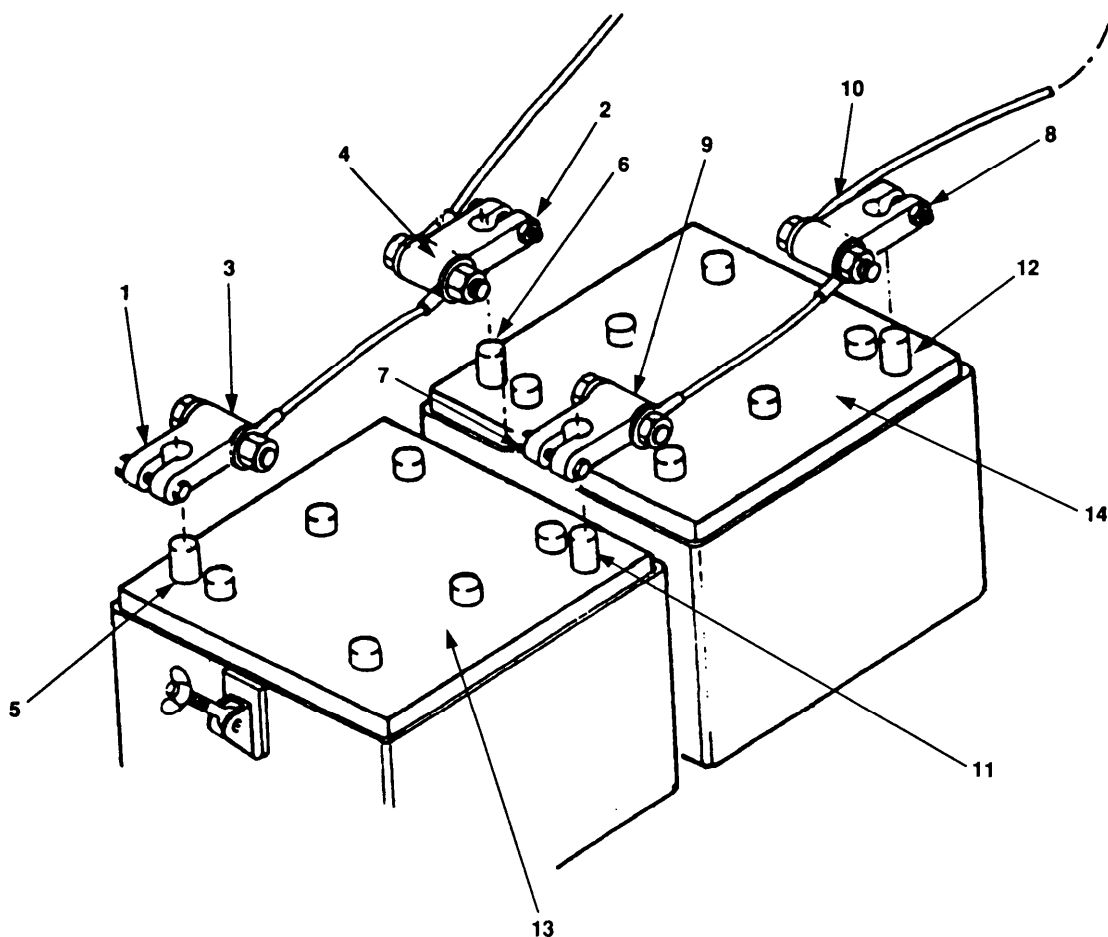

Figure 4-37. Battery Maintenance.
- a. Loosen nuts (figure 4-37, 1 and 2) and remove negative battery terminals (3 and 4) from posts (5 and 6).